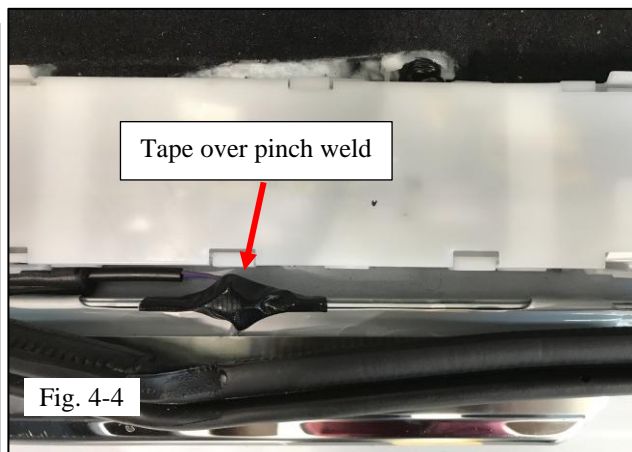

Fig. 4-4
(e) Place one pinch weld bridge on the pinch weld in the area where the cable exits the door sill. (Fig. 4-4)
(1) Secure the door sill cable to the pinch weld bridge by placing electrical tape on top (Fig. 4-4)